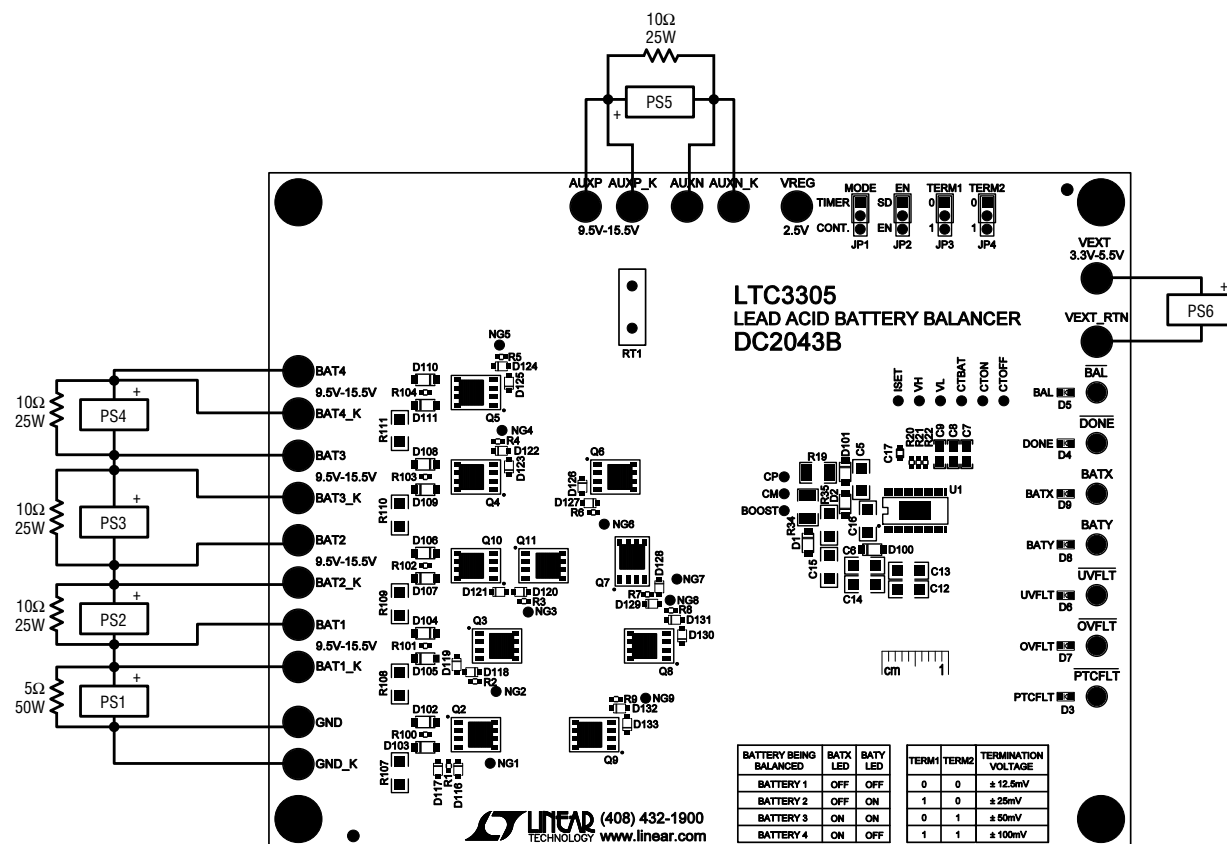

Figure 5. Proper Measurement Equipment Set-Up
Using short twisted pair leads for any power connections, with all loads and power supplies off, refer to Figure 5 for the proper measurement and equipment setup.
- 2. Connect power supplies, load resistors and meters as shown in Figure 5. Turn on PS1 and slowly increase voltage to 2.0V while monitoring the input current. If the current remains less than 200mA, increase PS1 to 12.0V. Repeat for PS2-PS4.